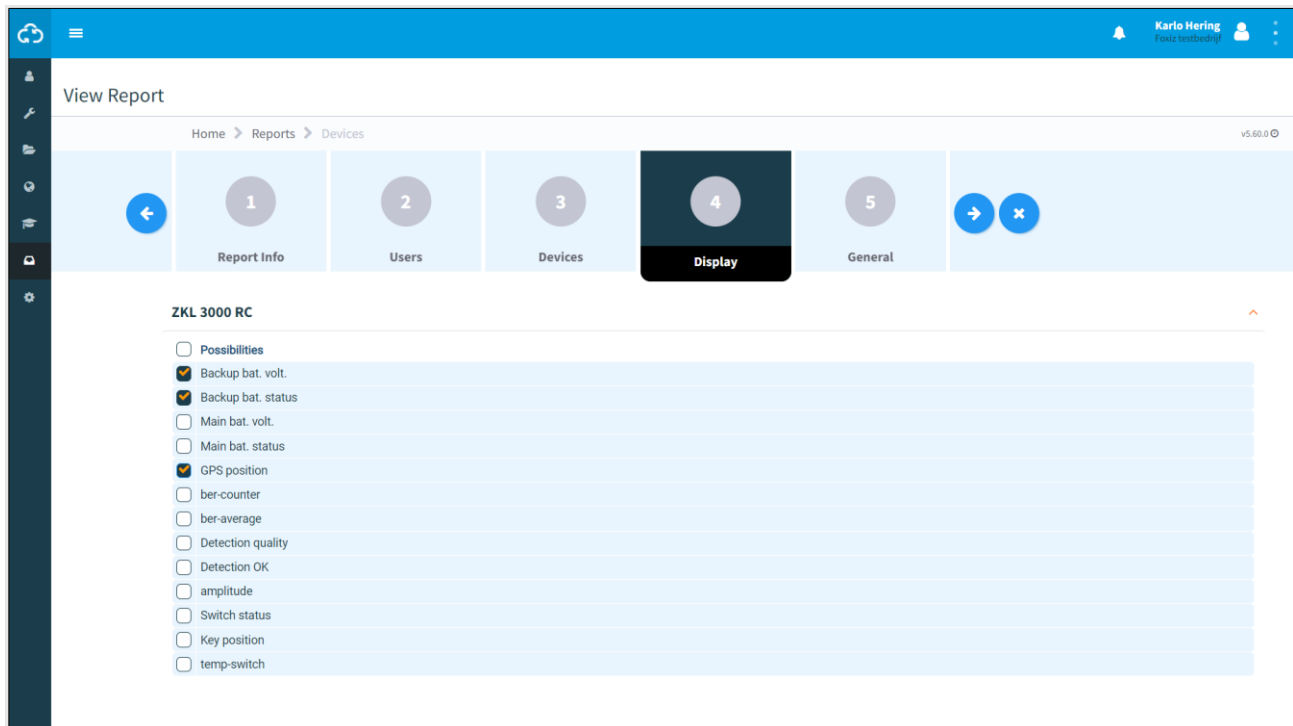

Figure 77 View report - Display
- Step 2 - Display (Figure 77);